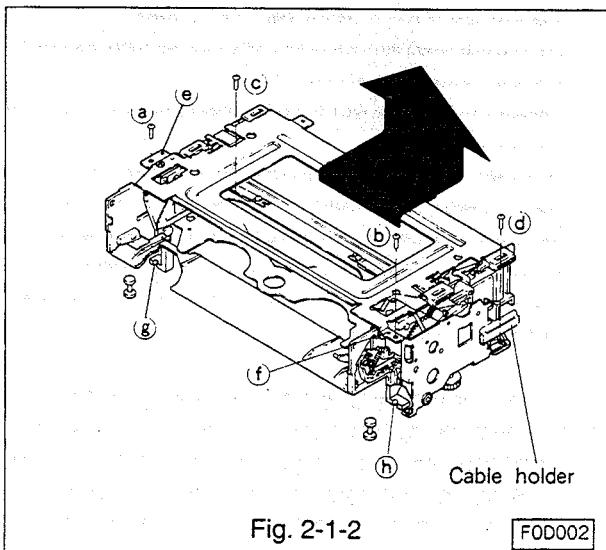

Fig. 2-1-2
- D. Unscrew four cassette housing fastening screws ( a ~ d ). Raise the cassette housing slowly in the direction shown by the arrow.(Refer to Fig. 2-1-2.)
- C. Fasten the housing to the deck with the four screws( **a** ~ **d** ).(Refer to Fig. 2-1-2.)